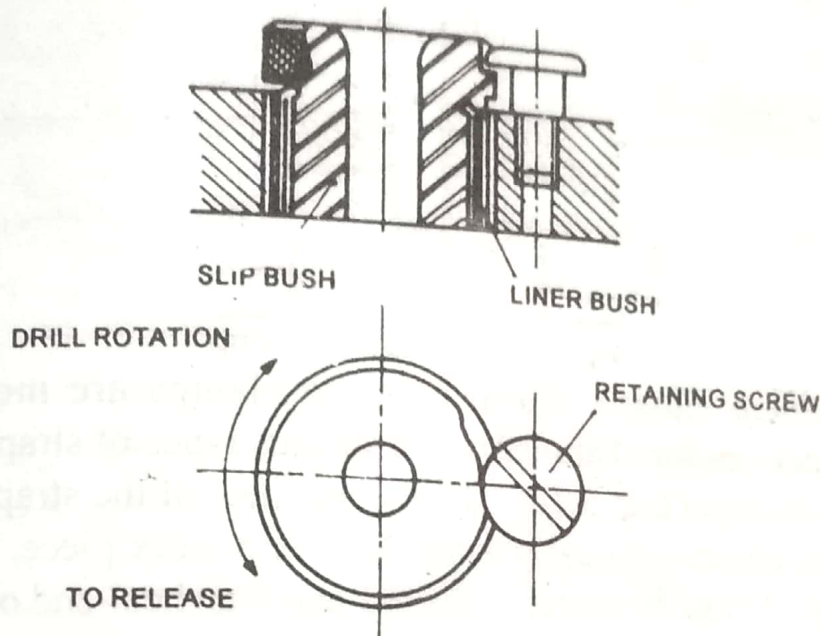

Fig. 5.31 Slip Bush
2. **Slip bushes** : Slip bushes are used when two or more tools are necessary for completing a hole. They should be prevented from rotating during drilling by using a retaining screw as in Fig. 5.31. The head of slip bushes is knurled to facilitate handling.